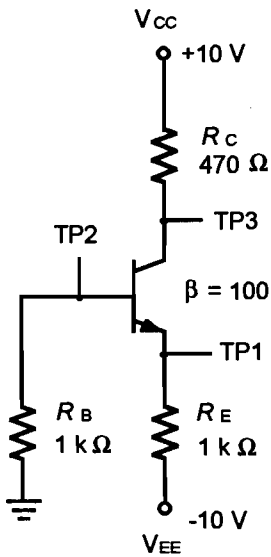

Figure 13.1
- Using the first transistor, construct the circuit in Figure 13.1. Check your circuit to be sure that your connections are correct. Apply circuit power; then measure and record the following circuit values:
- Using the beta box model with an assumed beta of 173, calculate the following values for the circuit in Figure 13.1.
4. The saturated value of  $I_C$  for the circuit in Figure 13.1 is \_\_\_\_\_.